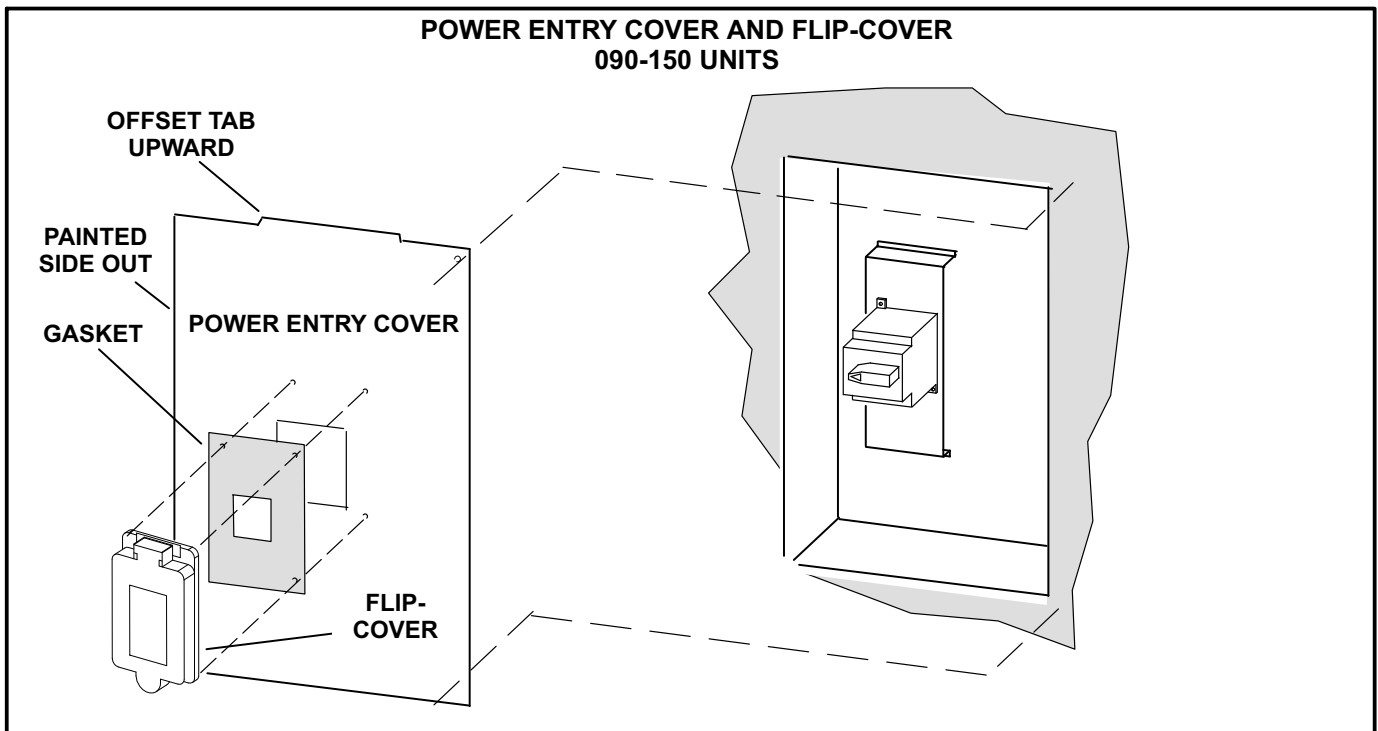

FIGURE 7
- 1- Install flip cover and gasket on painted side of power entry cover as shown in figure 7. Make sure flip cover opens upward.